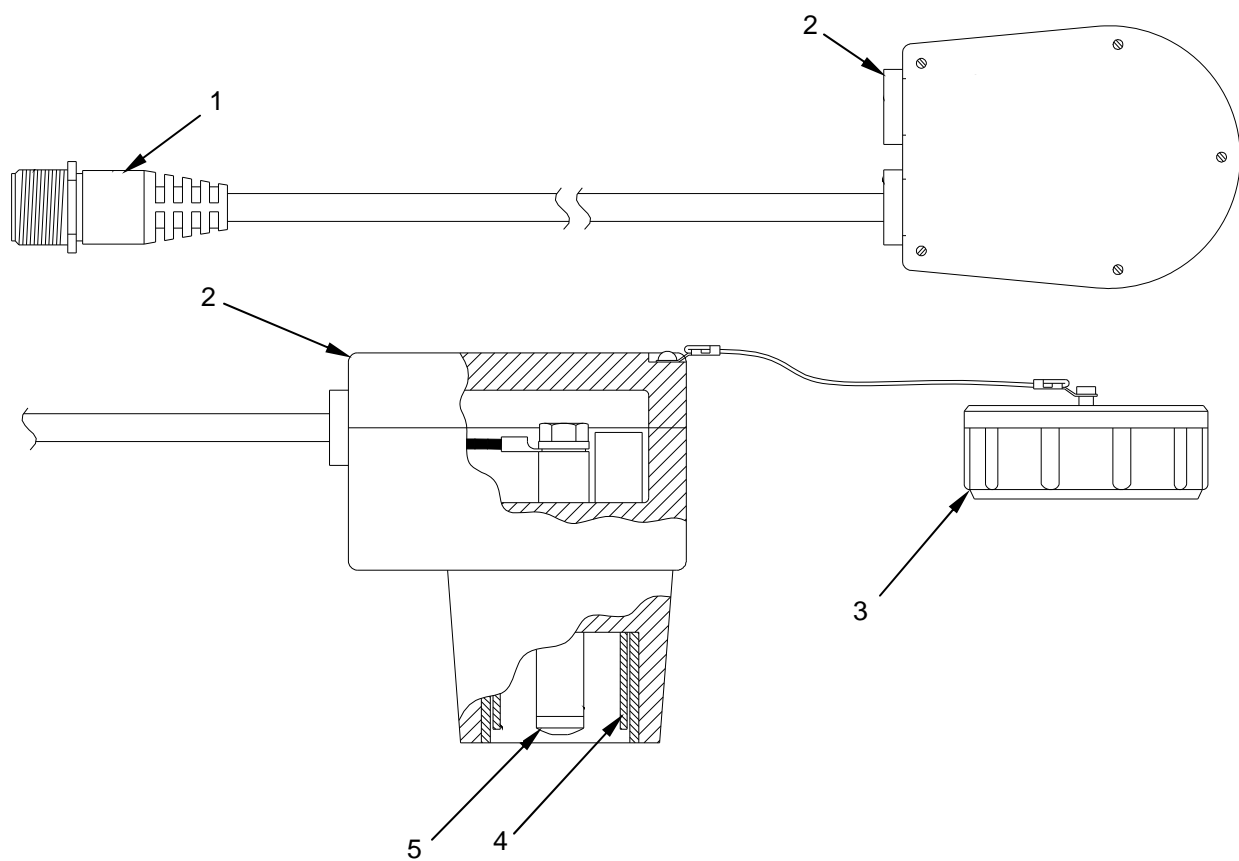

Figure 1. Test the NATO Adapter Cable.
1. Remove the outer cap (Figure 1, Item 3) of the large power connector (Figure 1, Item 2).
2. Use a multimeter to test for continuity between the terminal (Figure 1, Item 5) in the large power connector (Figure 1, Item 2) and each terminal in the small power connector (Figure 1, Item 1). There should be continuity with only one terminal in the small power connector. Replace a NATO Adapter Cable which does not pass this test.
3. Use a multimeter to test for continuity between the socket (Figure 1, Item 4) in the large power connector (Figure 1, Item 2) and each terminal in the small power connector (Figure 1, Item 1). There should be continuity with only one terminal in the small power connector. Replace a NATO Adapter Cable which does not pass this test.
4. Install the outer cap (Figure 1, Item 3) on the large power connector (Figure 1, Item 2).